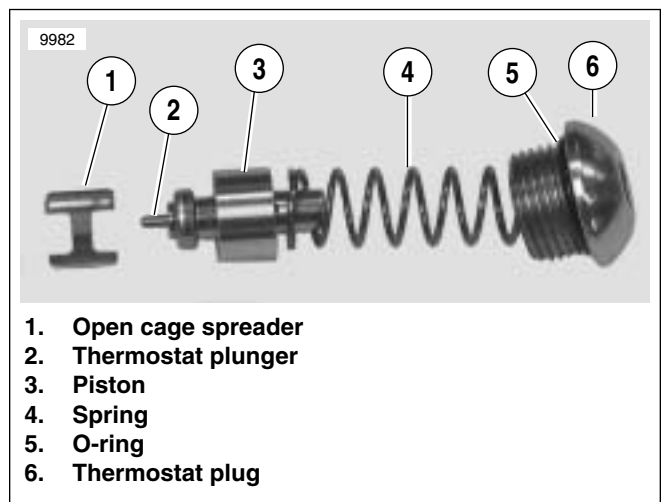

Figure 3-53. Thermostat Components
4. See Figure 3-53. With a ball Allen wrench, loosen and remove the thermostat plug.
1. See Figure 3-53. Insert the open cage spreader part way into thermostat chamber.